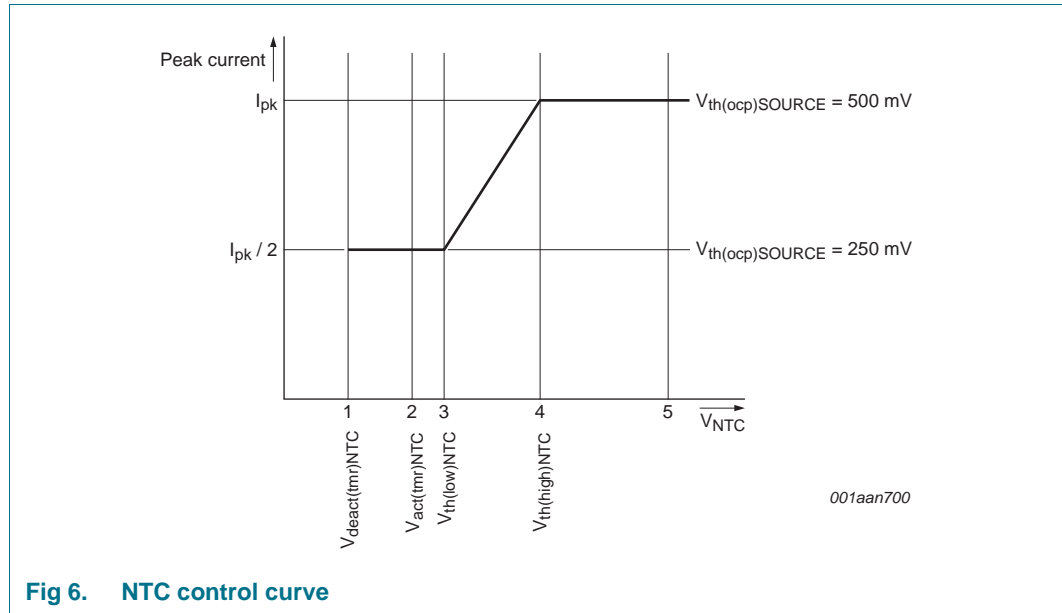

Fig 6. NTC control curve
The NTC pin can be used as a control method for LED thermal protection. Alternatively, the pin can be used as an input to disable/enable light output using a digital signal (PWM regulation). The pin has an internal current source that generates the current of  $I_{\text{offset}(\text{NTC})}$ . An NTC resistor to monitor the LED temperature can be connected directly to the NTC pin. Depending on the resistance value and the corresponding voltage on the NTC pin, the converter reacts as shown in Figure 6.
When the voltage on the NTC pin is higher than  $V_{th(high)NTC}$  (see Figure 6 (4)), the converter delivers nominal output current. When the voltage is lower than this level, the peak current is gradually reduced until  $V_{th(low)NTC}$  is reached (see Figure 6 (3)). The peak current is now half the peak current of nominal operation. When  $V_{act(tmr)NTC}$  is passed (see Figure 6 (2)), a timer starts to run to distinguish between the following situations:
- If the low-level  $V_{deact(tmr)NTC}$  is not reached within time  $t_{to(deact)NTC}$  (see Figure 6 (1)), LED overtemperature is detected. The IC stops switching and attempts to restart from the HV pin voltage. The converter restarts from an NTC protection shutdown when the voltage on the NTC pin exceeds  $V_{th(high)NTC}$  (see Figure 6 (4)). It is assumed that the reduction in peak current does not result in a lower NTC temperature and LED OTP is activated.
- If the low-level  $V_{deact(tmr)NTC}$  is reached within the time  $t_{to(deact)NTC}$  (see Figure 6 (1)) it is assumed that the pin is pulled down externally. The restart function is not triggered. Instead, the output current is reduced to zero. PWM regulation and consequently LED output current regulation can be implemented this way. The output current rises again when the voltage is higher than  $V_{th(low)NTC}$ .
The NTC pin can be used to make a soft start function. During switch-on, the level on the NTC pin is low. By connecting a capacitor (in parallel with the NTC resistor), a time constant can be defined. The time constant causes the level on the NTC pin to increase slowly. When passing level  $V_{th(low)NTC}$  (see Figure 6 (3)), the convertor starts with half of the maximum current. The output current slowly increases to maximum when  $V_{th(high)NTC}$  (see Figure 6 (4)) is reached.